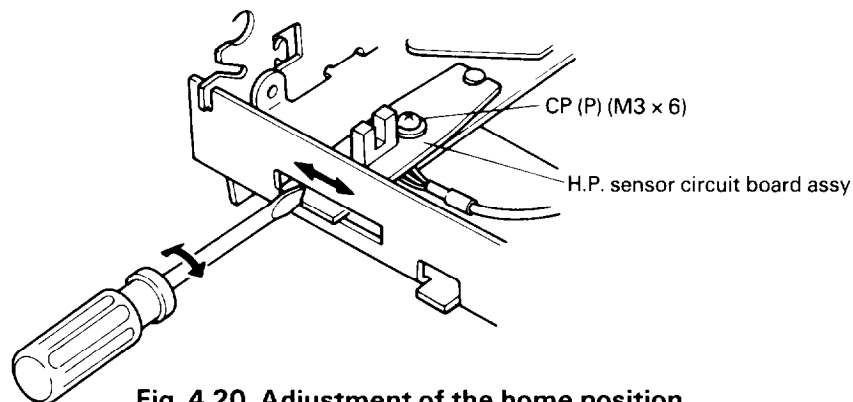

Fig. 4.20 Adjustment of the home position
4.4.2 H.P. sensor board adjustment (Figs. 4.20,4.21)